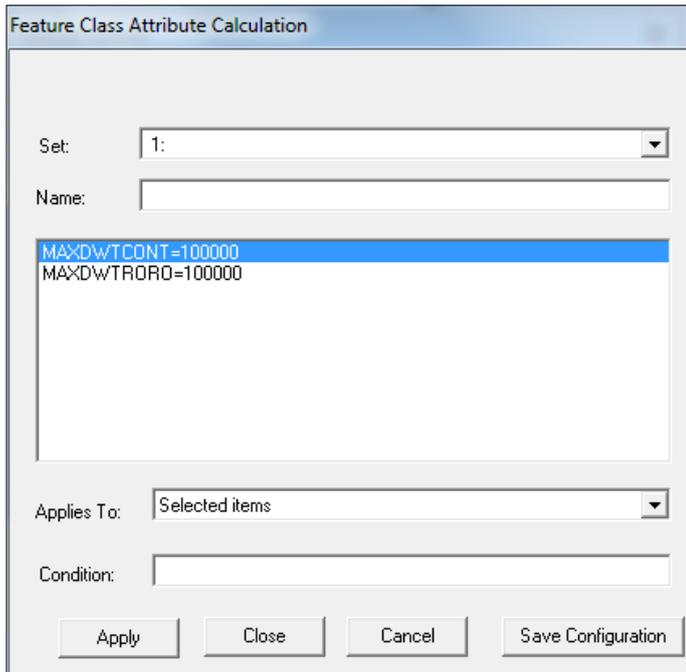

Figure 48 The Feature Class Attribute Calculation window.
- 6) Select Node -> Compute and type in the equations by right-clicking in the largest field (in the middle) and select "Insert" (e.g., MAXDWTRORO=100000, see Figure 48. To see the available parameters, right-click in the blank field in the Insert Equation window) and select which items the edits should apply to (all or selected). Click "Apply". When finished, click "Close"
- 6) Select Node -> Compute and type in the equations by right-clicking in the largest field (in the middle) and select "Insert" (e.g., VANERNCAN=4001, see Figure 48. To see the available parameters, right-click in the blank field in the Insert Equation window) and select which items the edits should apply to (selected). Click "Apply". When finished, click "Close"
- 6) Select Node -> Compute and type in the equations by right-clicking in the largest field (in the middle) and select "Insert" (e.g., `TRANOCEFAC=10`, see Figure 48. To see the available parameters, right-click in the blank field in the Insert Equation window) and select which items the edits should apply to (selected). Click "Apply". When finished, click "Close"